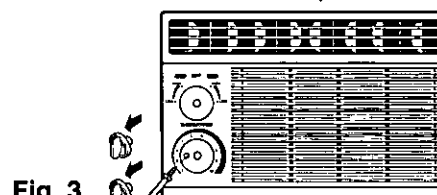

Fig. 3
2. Remove the screw securing the front grille. (Fig. 3)